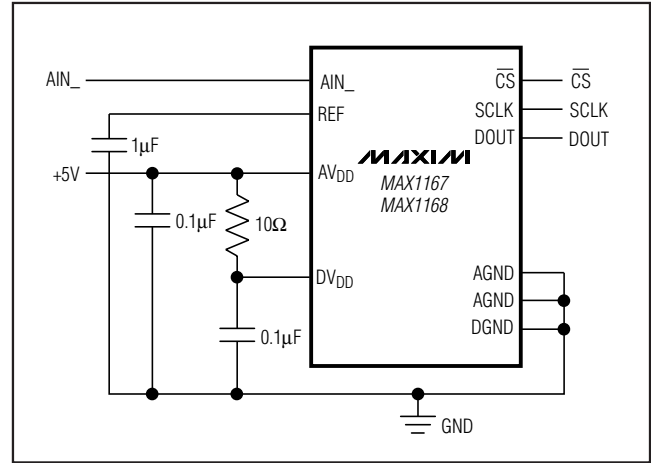

Figure 25. Powering  $AV_{DD}$  and  $DV_{DD}$  from a Single Supply
Use printed circuit (PC) boards with separate analog and digital ground planes. Do not use wire-wrap boards. Connect the two ground planes together at the MAX1167/MAX1168 AGND terminal. Isolate the digital supply from the analog with a low-value resistor (10Ω) or ferrite bead when the analog and digital supplies come from the same source (Figure 25).